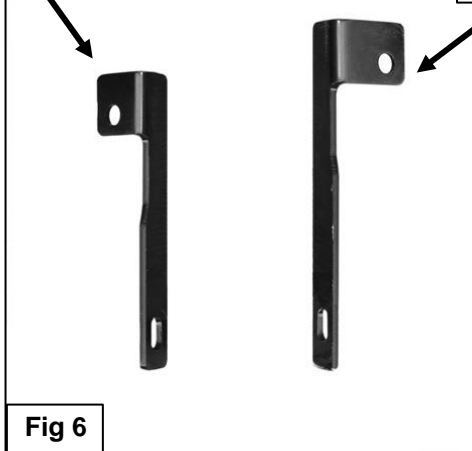

Fig 6
6. Select the passenger side front Support Bracket (long), **(Figure 6)**. Attach the Bracket to the Bolt Plate with (1) 10mm Flat Washer, (1) 10mm Lock Washer and (1) 10mm Hex Nut, **(Figure 7)**. **NOTE:** Place the lower flat end of the Support Bracket against the front facing side of the Mounting Bracket. The bent tab on the top of the Support Bracket should face the **front** of the vehicle. Do not tighten hardware at this time.
9. Remove the tape covering the hole in the inner rocker panel and install (1) Bolt Plate as described in **Step 5**. Select the passenger side rear Support Bracket, (short), **(Figure 6)**. Attach the bent end of the top of the Bracket to the Bolt Plate with (1) 10mm Flat Washer, (1) 10mm Lock Washer and (1) 10mm Hex Nut, **(Figure 9)**. **NOTE:** Place Support Bracket against the front facing side of the Mounting Bracket. The bent tab on the top of the rear Support Bracket should face the **rear** of the vehicle.